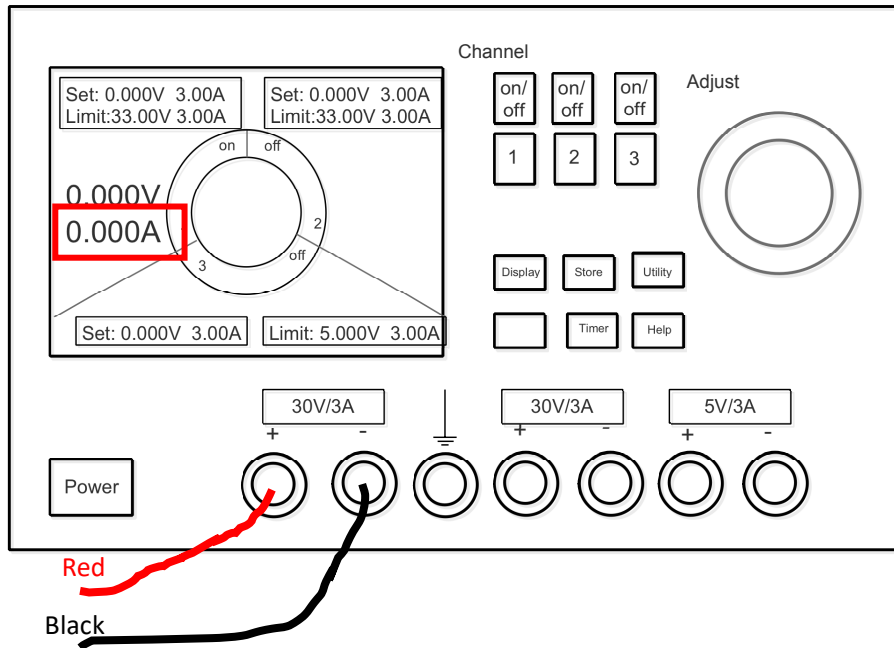

Figure 5: Configuration of the power supply when providing a voltage to a circuit
- 2) **Push the button labeled “1” under Channel area** to allow the device to deliver at most 30 volts (and currents up to 3A). You will use the pair of terminals labeled **+** and **-** of **Channel 1**. See Figure 5.
3. Make sure you make the right connection, then turn on the DC power. Run the motor for 1 minute to “warm it up”. Now we will record how much current flows through the motor. The current can be read directly from the voltage supply (As show in Figure 5).
5. Assuming you connect the circuit as shown in Figure 5 , and you use the battery as the power source. If you want most of the battery voltage appear across the motor (so it doesn't stall), R_l and R_r should be no larger than the resistance of the motor. Now measure the open circuit voltage of your rechargeable battery, answer the following question.